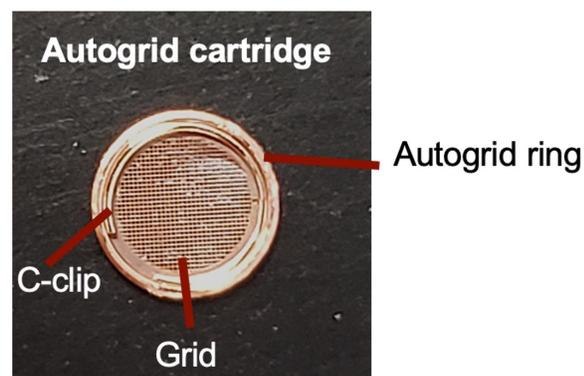

Figure 5. Properly clipped grid.
- 4.3.11. Inspect the grid to ensure it has clipped properly, using magnification if necessary (see figure 5).